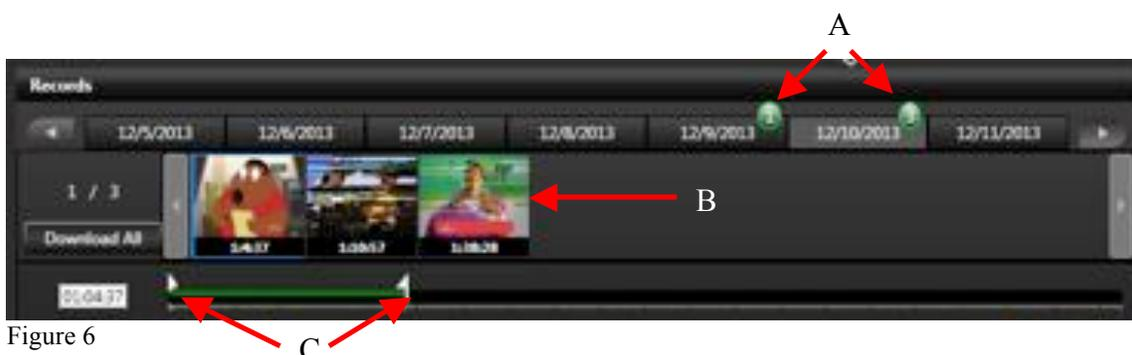

Figure 6
The “Records” panel displays the number of recordings for each date on the scroll bar at the top. The green-circled numbers (A) that appear next to the dates show how many separate recordings have been captured on that day (Figure 6). Thumbnails of each recording (B) will display below the date bar. Each thumbnail also shows the start time for the clip. When you highlight a thumbnail, its start and end times appear in the left-hand column below the “Download All” button. Use the green edit bar below the thumbnails to mark “in” and “out” (C) on the recordings for extraction.